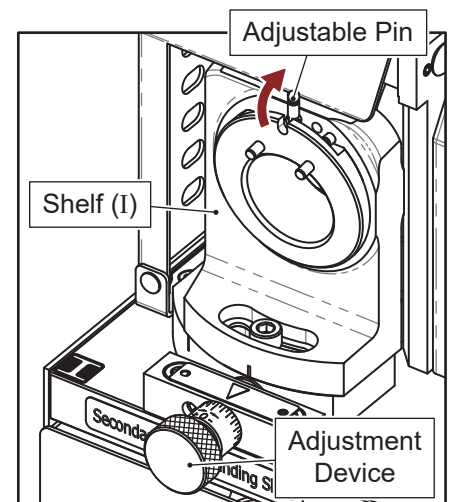

Fig. 10-1
1. Secondary Relief Grinding Shelf (I) (Fig. 10-1)
- ① Move the adjustable pin on the Shelf (I) from the bottom to top.
- ② Adjust the cutting face adjustment device to “0”, after finishing the whole sharpening procedure, then adjust this device according to your needs. (See chapter “IX. The use of the Cutting Face Adjustment Device”)